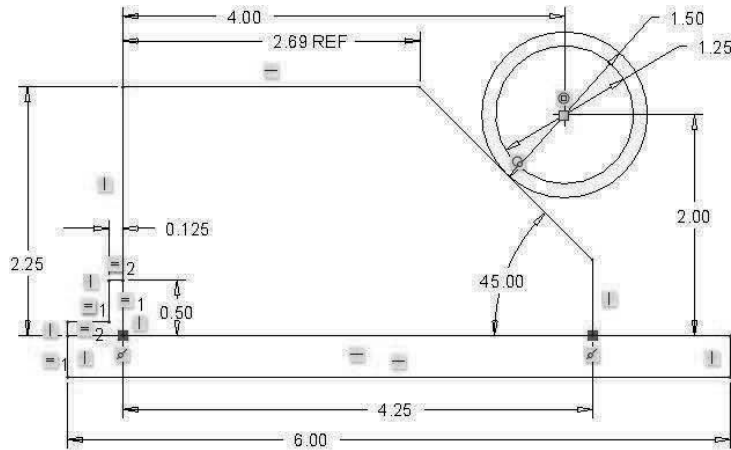

Figure 3-57 Reference Dimension Added
**Step 17:** The letters REF will appear after the reference dimension. At this point your sketch should look similar to the one shown in Figure 3-57. The top horizontal line of the jig needs to be 2.69 inches. This will cause the slanted side of the jig to just touch the outside diameter of the pipe.